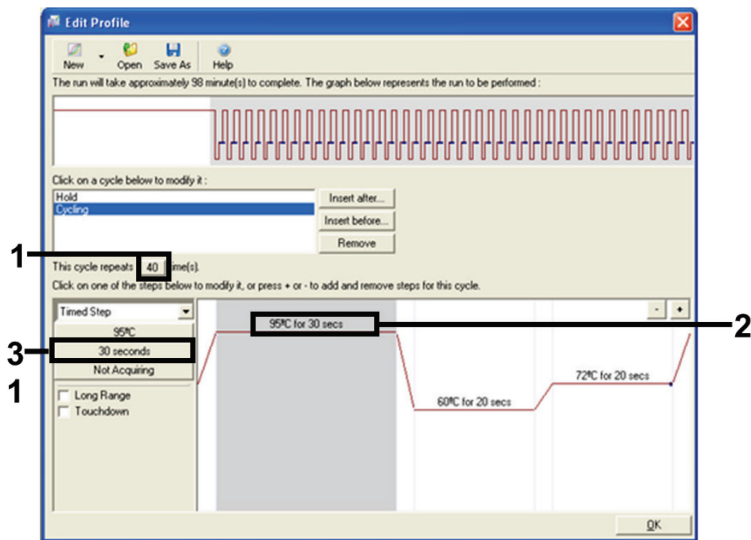

Figure 6. Cycling step at 95°C.
8. Set the number of cycle repeats to **40**. Select the first step and set to **95°C for 30 seconds** (Figure 6).